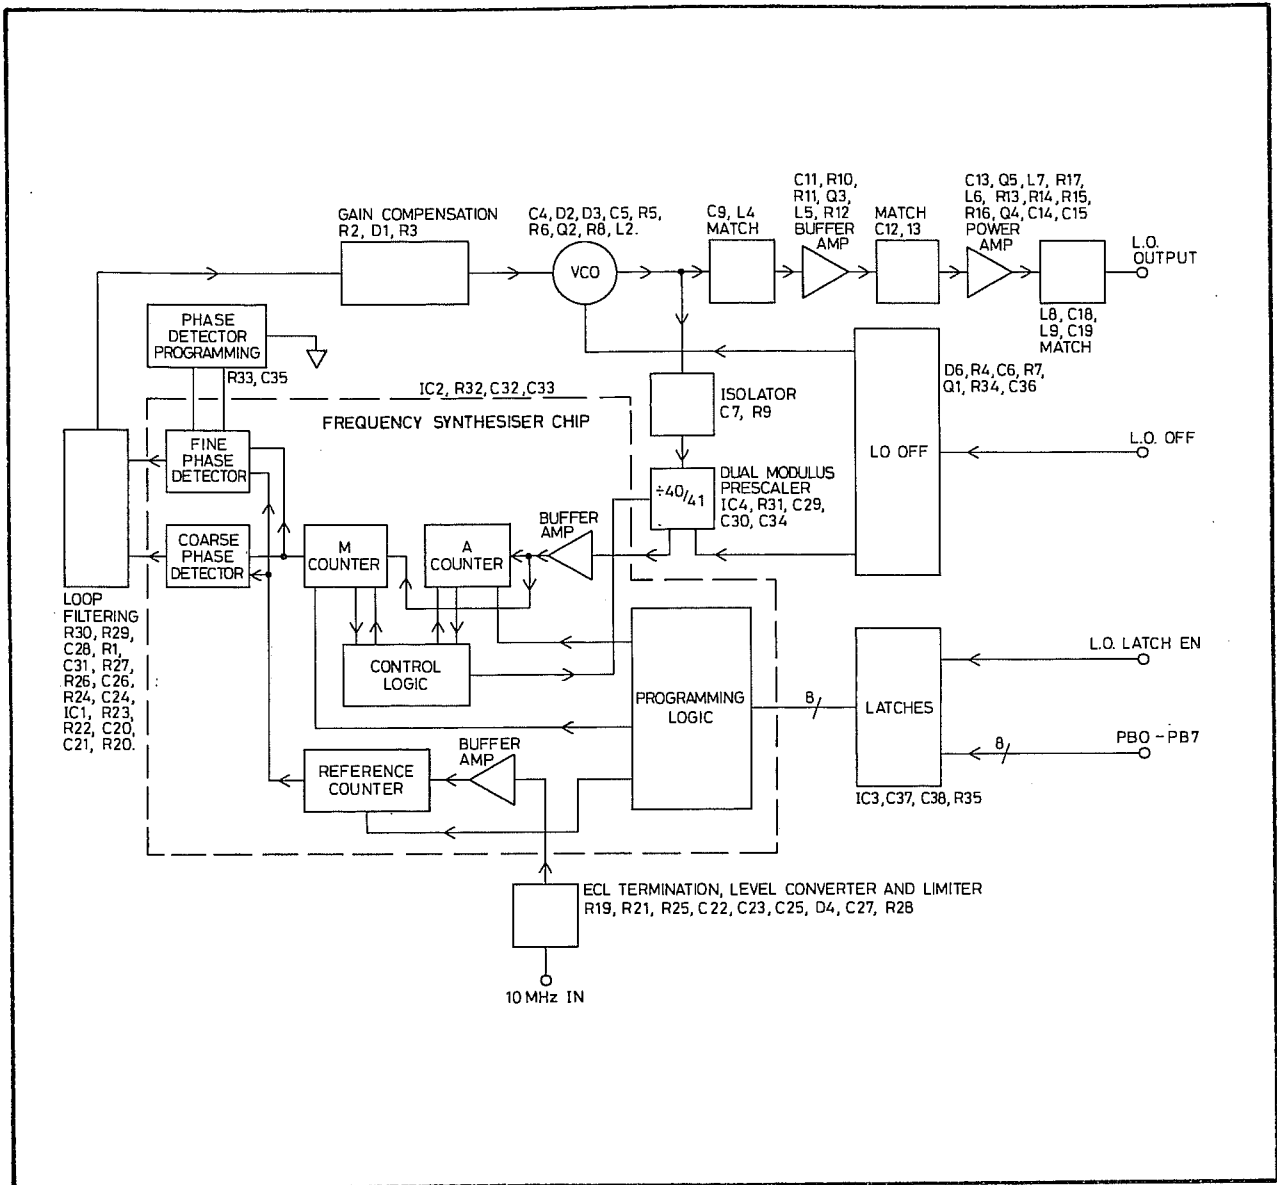

Fig. 6.6 LO Board Block Diagram
- 43 The Lo frequency synthesizer generates a signal in the range 292.5 MHz to 354.5 MHz, in 100 kHz steps. This signal is used to drive the LO input of the sampling mixer. The frequency is programmable via the microprocessor bus. A block diagram is given in Fig. 6.6.